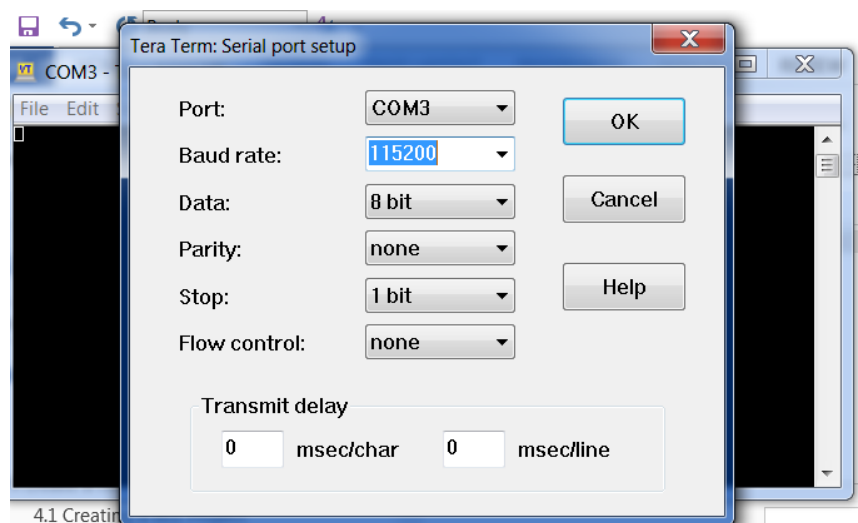

Figure 71: Configuring the serial port
- From the Menu bar choose Setup > Serial port ... and configure the serial port as **115200-8-n-1** as shown in Figure 71.